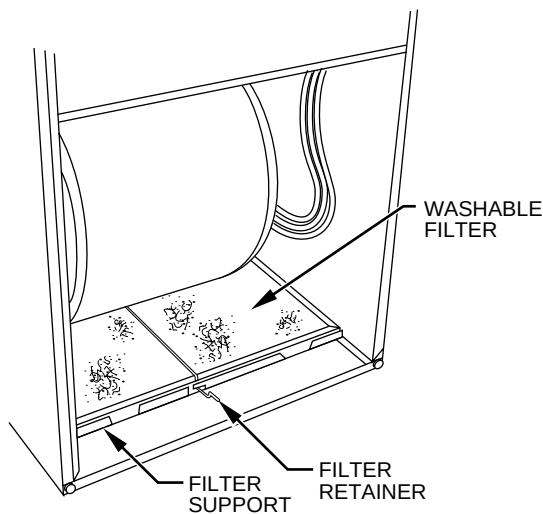

**Fig. 3—Bottom Filter Arrangement**
3. Release filter retainer wire. (See Fig. 3 or 4.)